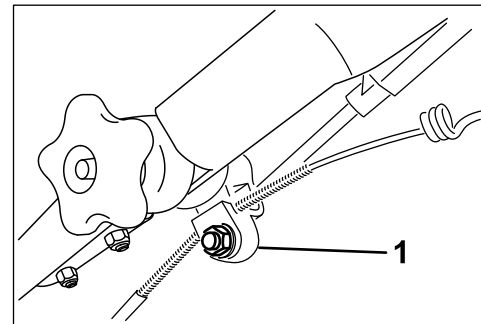

Figure 44
1. Loosen the nut on the cable mount (Figure 44).